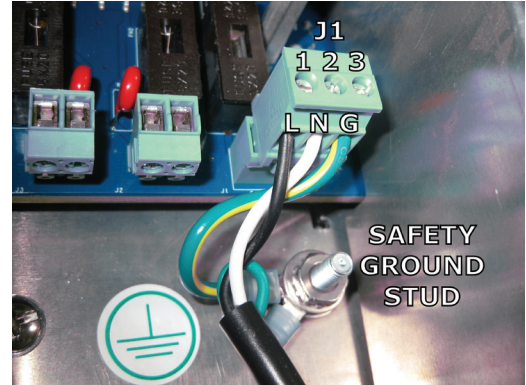

Figure 5 Power Connections
3. Install this jumper between the safety ground stud and the right-most terminal (pin 3) of the board's power input connector (J1, see Figure 5).